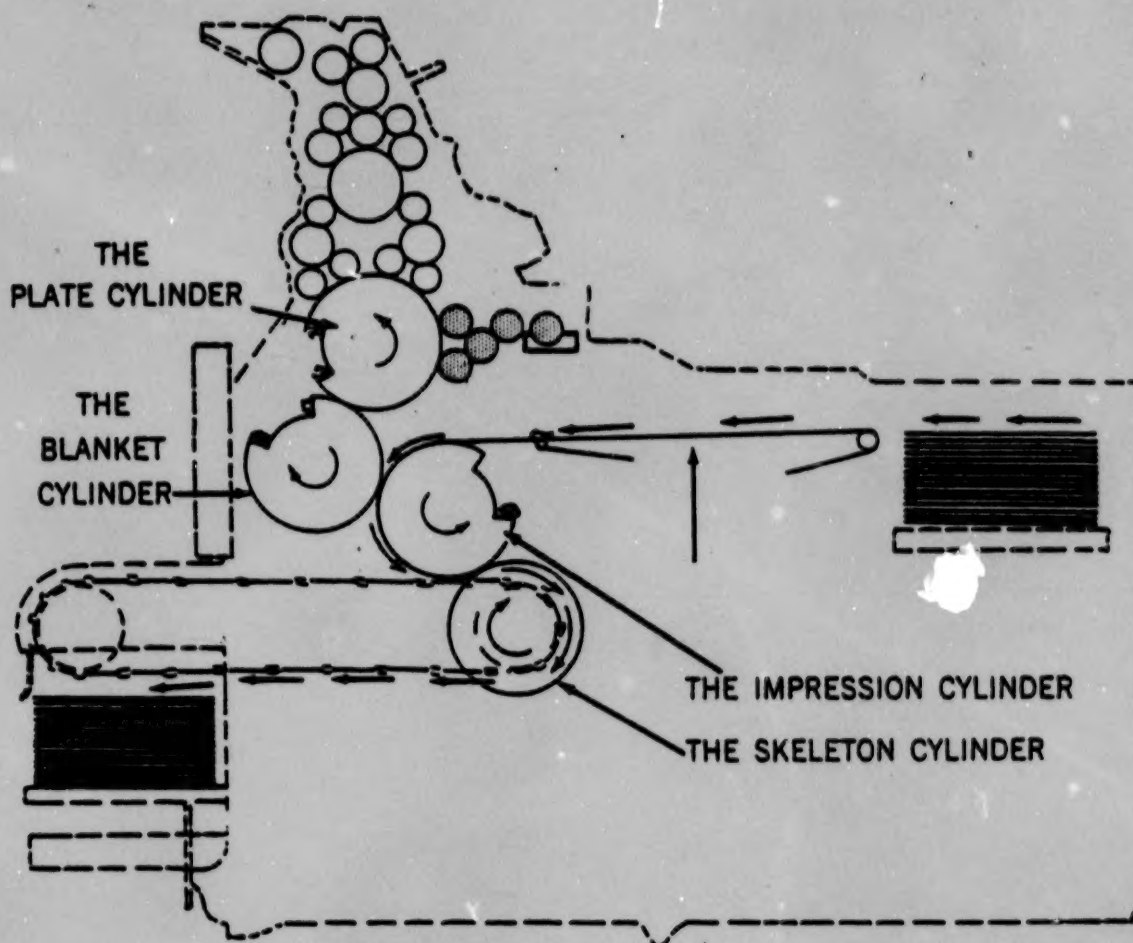

Figure 1 #A-109-57 Schematic Drawing of
- a. Paragraph 4a, Photo 10, Fig 1,2,3,4,5,6,7,8,9,10,11,12,13,14
- b. Paragraph 5c, Photo 12, Fig 1 and 2
- c. Paragraph 5d, Photo 12a, Fig 1,2, and 3
- a. Paragraph 2A, Photo 1, Fig 1,2,3,4,5
- b. Paragraph 2d, Photo 2, Fig 1,2,3
- c. Paragraph 2e, Photo 3, Fig 1,2,3
- d. Paragraph 2f, Photo 4, Fig 1,2,3
- e. Paragraph 2g, Photo 5, Fig 1,2,3
- f. Paragraph 3a, Photo 6, Fig 1 and 2
- g. Paragraph 3b, Photo 7, Fig 1,2,3
- h. Paragraph 3c, Photo 8, Fig 1 and 2
- i. Paragraph 3d, Photo 9, Fig 1,2,3,4,5
- b. Paragraph 4c, Photo 11, Fig 1
- c. Paragraph 4c, Photo 12, Fig 1 and 2
- d. Paragraph 6a, Photo 14, Fig 1 and 2
- e. Paragraph 6b, c, Photo 15, Fig 1,2,3,4
- f. Paragraph 6e, f, Photo 16, Fig 1,2,3,4,5
- g. Paragraph 6f, Photo 17, Fig 1
- h. Paragraph 6g, Photo 18, Fig 1,2,3
- i. Paragraph 1,2, Photo 38, Fig 1,2,3,4,5,6
- j. Paragraph 3, Photo 39, Fig 1,2,3,4
- k. Paragraph 4, Photo 40, Fig 1,2,3,4
- l. Paragraph 4, Photo 41, Fig 1,2,3
- m. Paragraph 5, Photo 42, Fig 1,2,3
- n. Paragraph 6, Photo 43, Fig 1,2,3,4
- a. Paragraph 1, Photo 97, Fig 1,2,3,4,5
- b. Paragraph 2, Photo 98, Fig 1
- c. Paragraph 3, pg 71, Photo 101, Fig 1,2,3,4,5,6,7
- e. Paragraph 4a, b, Photo 100, Fig 1,2,3
- g. Paragraph 7, Photo 102, Fig 1,2